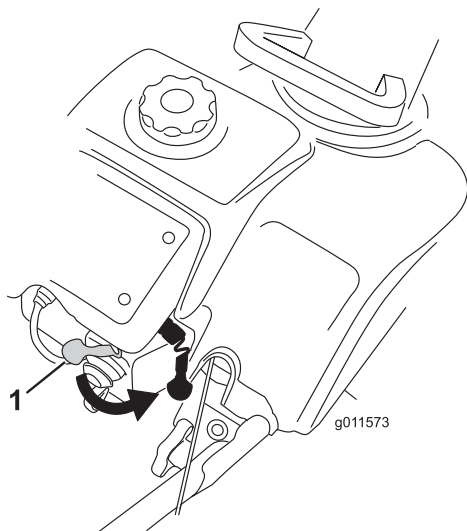
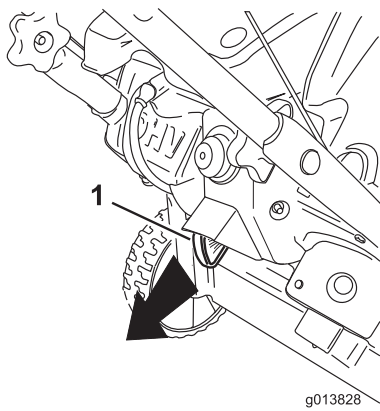

Figure 16
Figure 22
- 2. Move the choke lever fully to the right (Figure 16).
To shut off the engine, pull the ignition key outward until it clicks into the OFF position (Figure 22) or move the choke lever fully to the right (Figure 16).